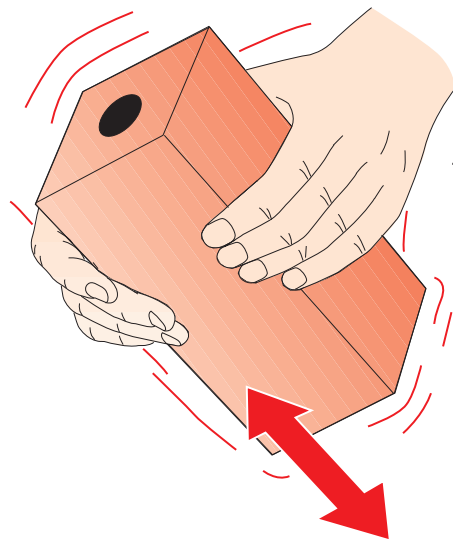

Fig. 11
- Shake the pack at least 10 times (fig. 11).